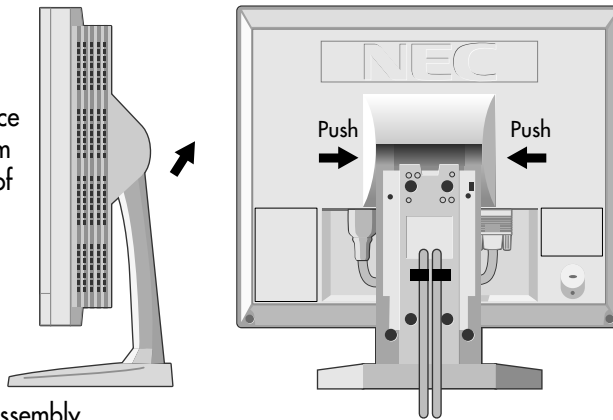

Figure R.1
1. Remove the connector cover, hinge cover and cable cover (Figure R.1).